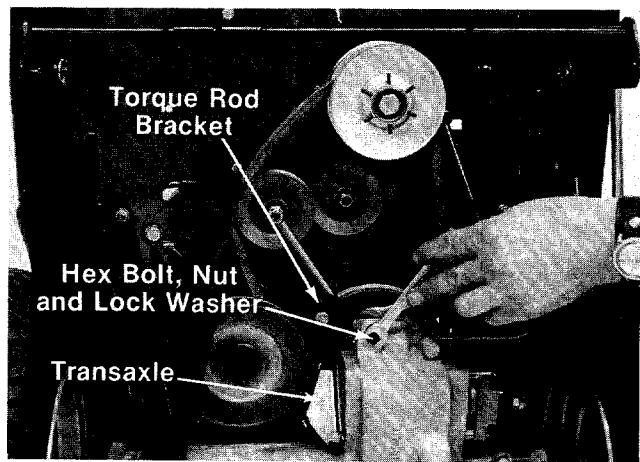

FIGURE 31.
6. Remove the hex bolt, nut and lock washer at the torque rod bracket and transaxle. See figure 31.